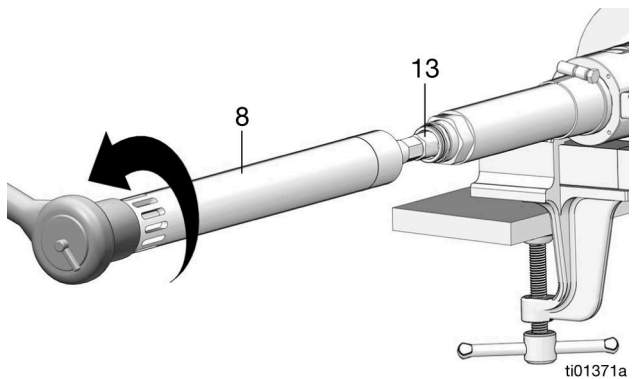

FIG. 7
- Use a 1 - 5/16 in. socket to loosen the inlet pump cylinder (8) and expose the hex on the connecting rod (13) (FIG. 7).